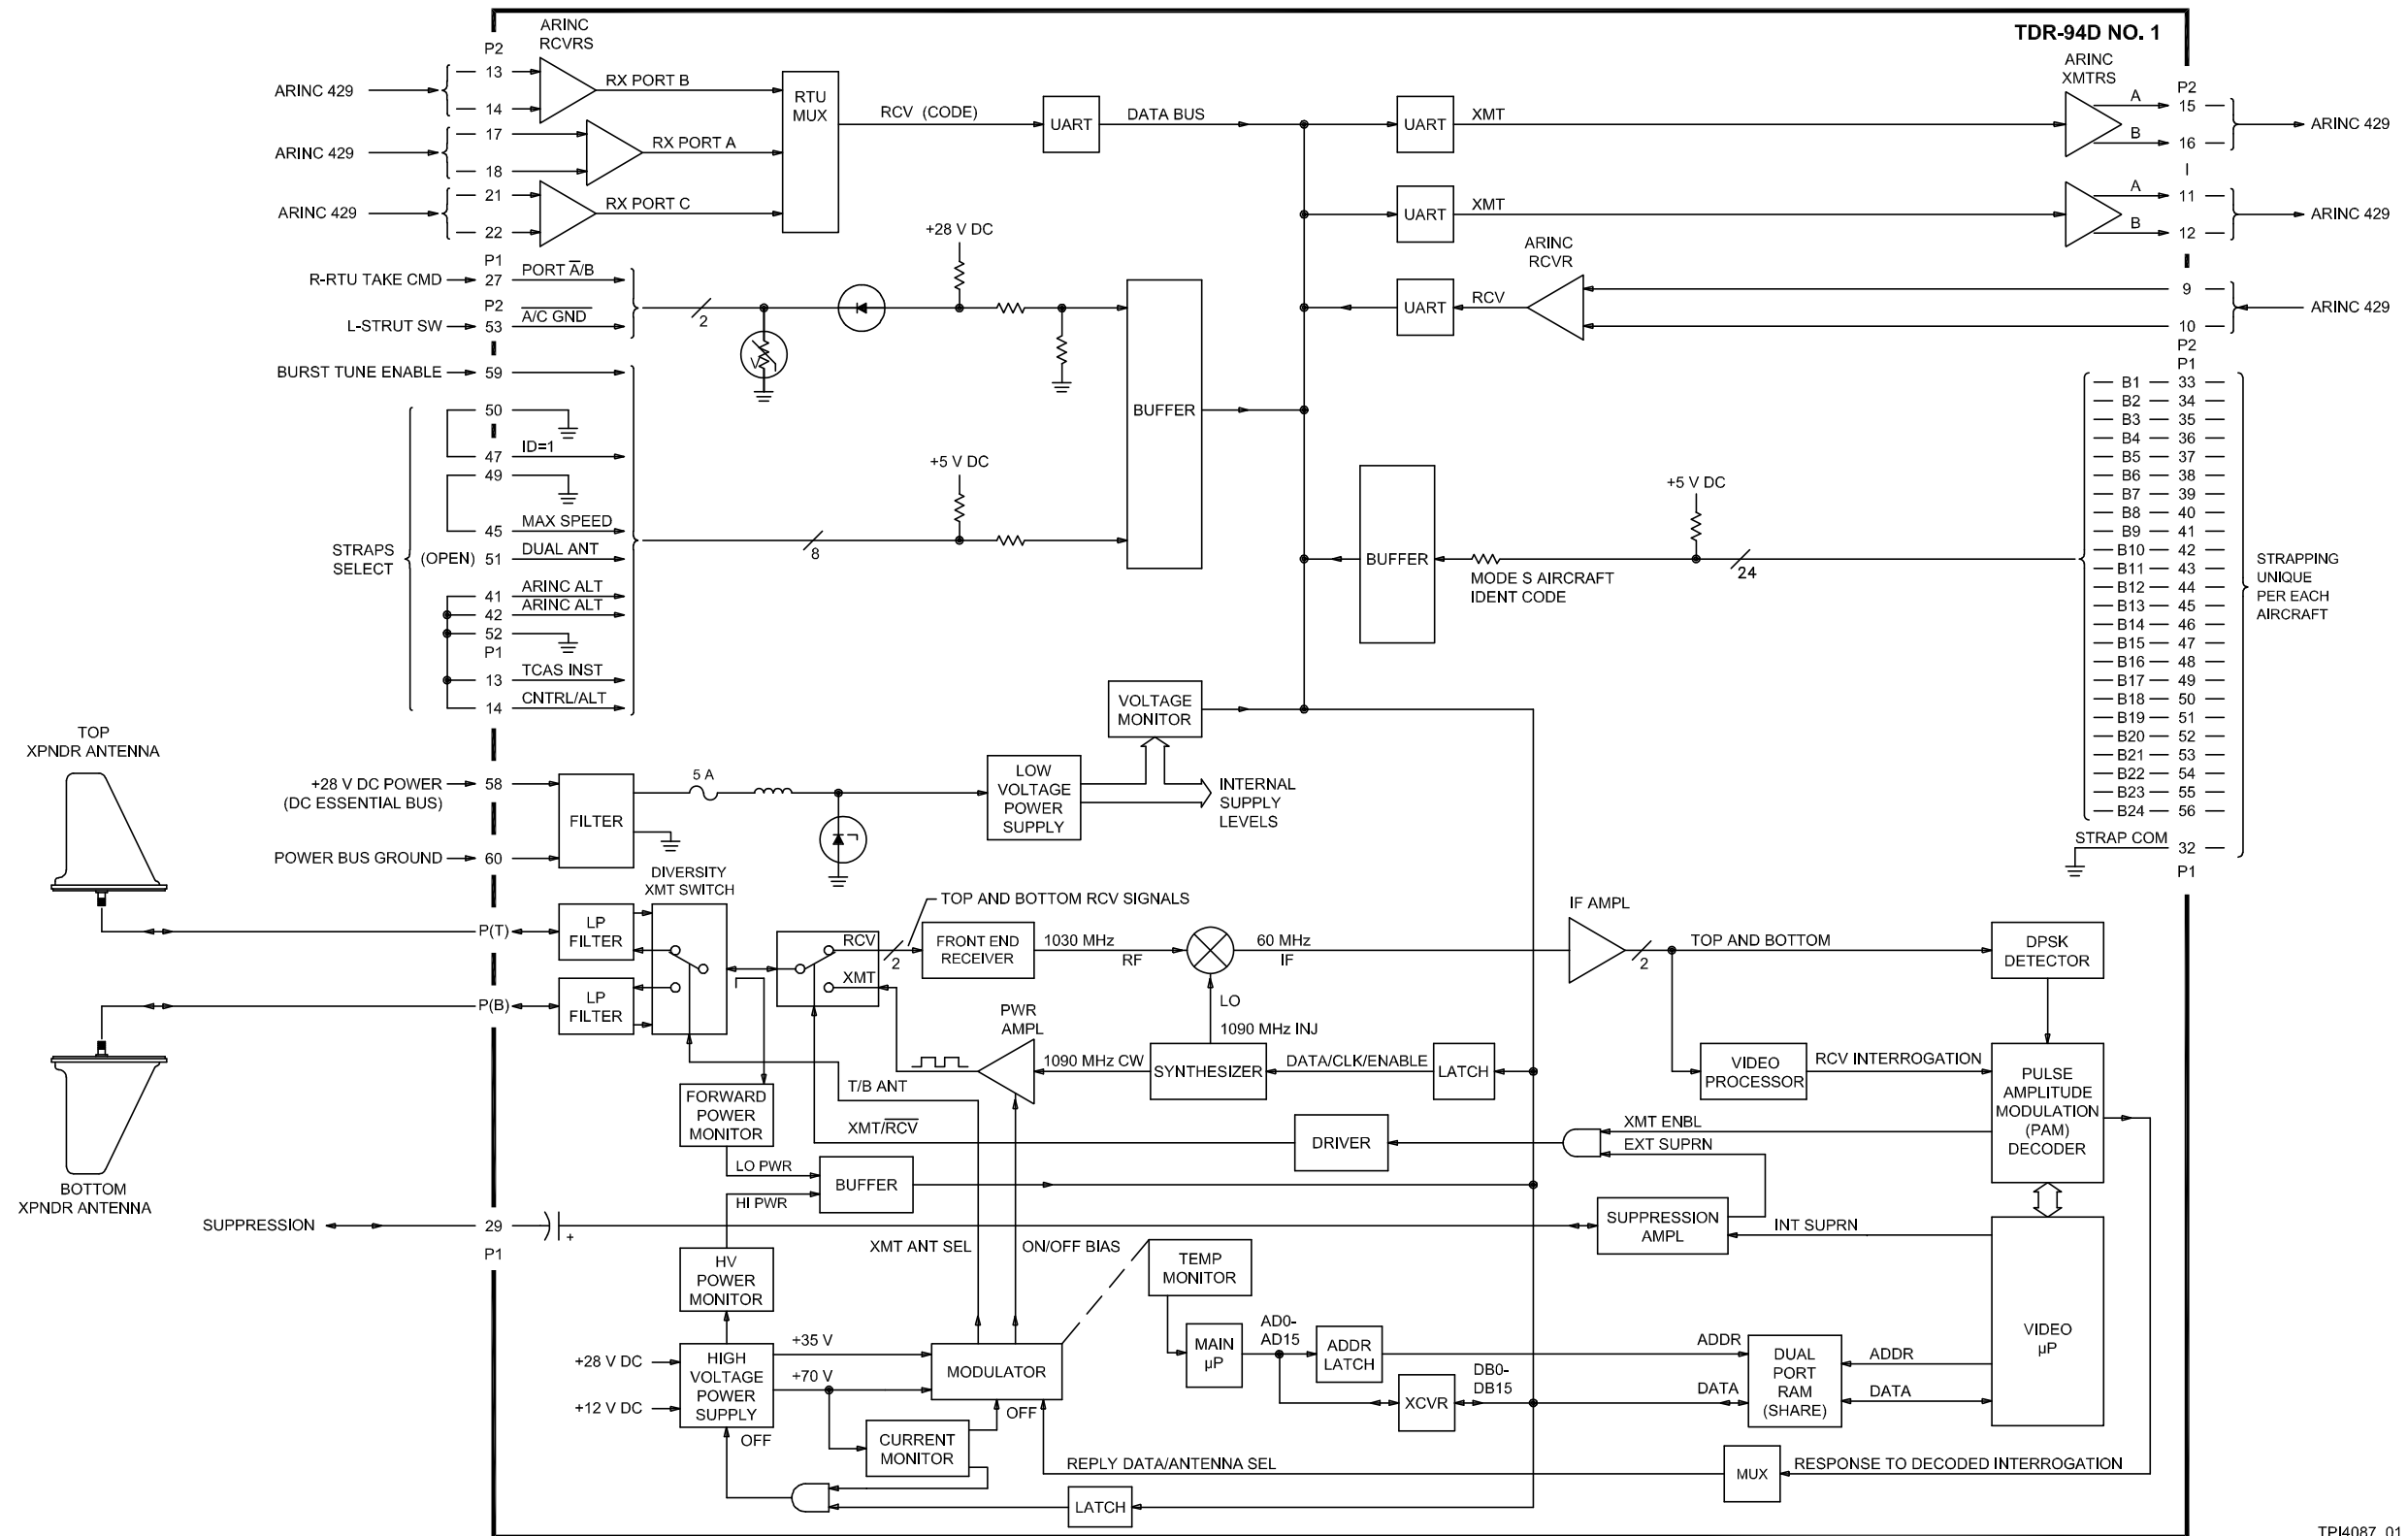

Figure 2-11. Mode S Transponder, TDR-94D, Internal Theory of Operation
Figure 2-9 shows a mating connector pictorial for the TDR-94D. Each connector shows pin locations to aid the troubleshooting effort. Refer to Figure 2-11 for internal signals for the TDR-94D. Also refer to the interconnect wiring diagram in the appendix. Table 2-4 shows the mating connector hardware and tooling for the TDR-94D.
Refer to Figure 2-11. When active, the TDR responds to valid ATCRBS radar interrogations with a coded identification in Mode-A or reporting altitude in Mode-C reply. The response code is selected on the controller.
2.8.6.2. Refer to Figure 2-11. The main microprocessor uses a 16-bit bidirectional data bus to control unit operation. An address latch and a data transceiver provide the interface between the processor and internal circuits. This processor controls all I/O data transfer, monitors key internal power levels, programs the frequency synthesizer, generates high-voltage supply disable logic, and shares data with the dedicated video processor through a dual-port Random Access Memory (RAM). The processor also directly monitors the temperature of the transmit modulator. If temperature becomes excessive, data is latched that toggles a discrete to inhibit the high-voltage power supply.